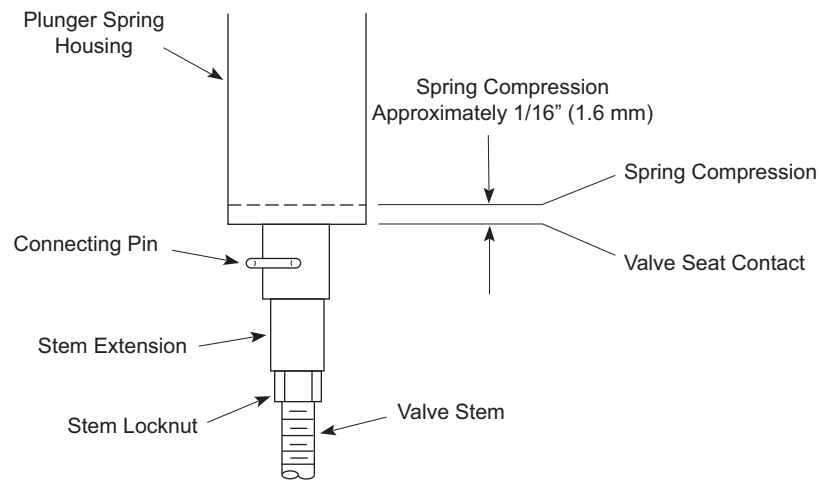

Figure-4 Valve Compression Stem Up.
Check to assure correct plunger spring compression. The length of the stem extension should be adjusted so that the valve disc seats before the actuator reaches the end of the stroke. The balance of the actuator stroke is taken up in the plunger spring compression, which should be approximately 1/16 inch (1.6 mm). This applies pressure on the disc in the closed position(s) and compensates for disc and seat wear. Refer to Figure-5 for VB-7213 (stem down closed). For three way applications (VB-73x3 or VB-9313) refer to Figure-4 and Figure-5.
2. Observe the plunger spring compression as in Figure-4.